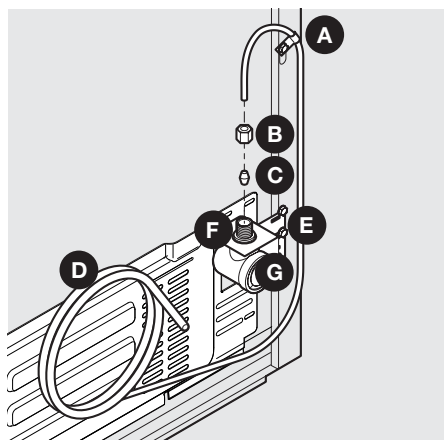

Figure 1
4. **If you use copper tubing** - Slide the brass compression nut, and then the ferrule (sleeve) onto water supply line. Push water supply line into water valve inlet as far as it will go ( $\frac{1}{4}$ "/6.4 mm). Slide the ferrule (sleeve) into the valve inlet and finger tighten the compression nut onto the valve. Tighten another half turn with a wrench; **DO NOT** over tighten. See Figure 1.